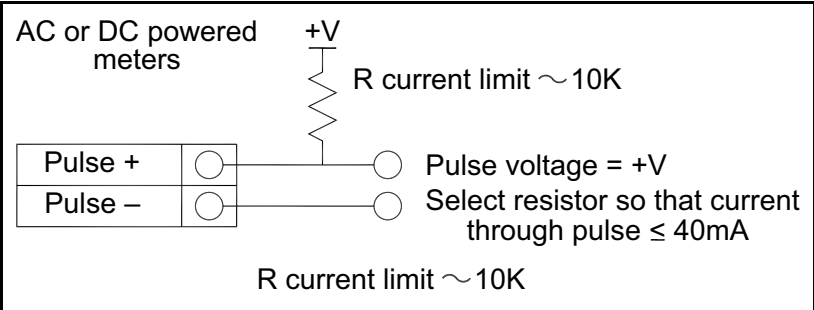

Figure 38: Isolated Pulse Output with External Power Supply
- For AC or DC powered meters, use a separate 5 to 36 VDC power supply (see *Figure 38 on page 43*). Use this option if a specific voltage is needed for the pulse output.